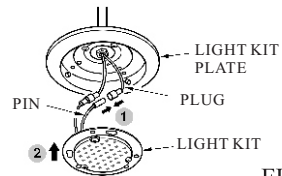

FIG.15
5. Plug fan wires to light kit wires. (see fig.15)